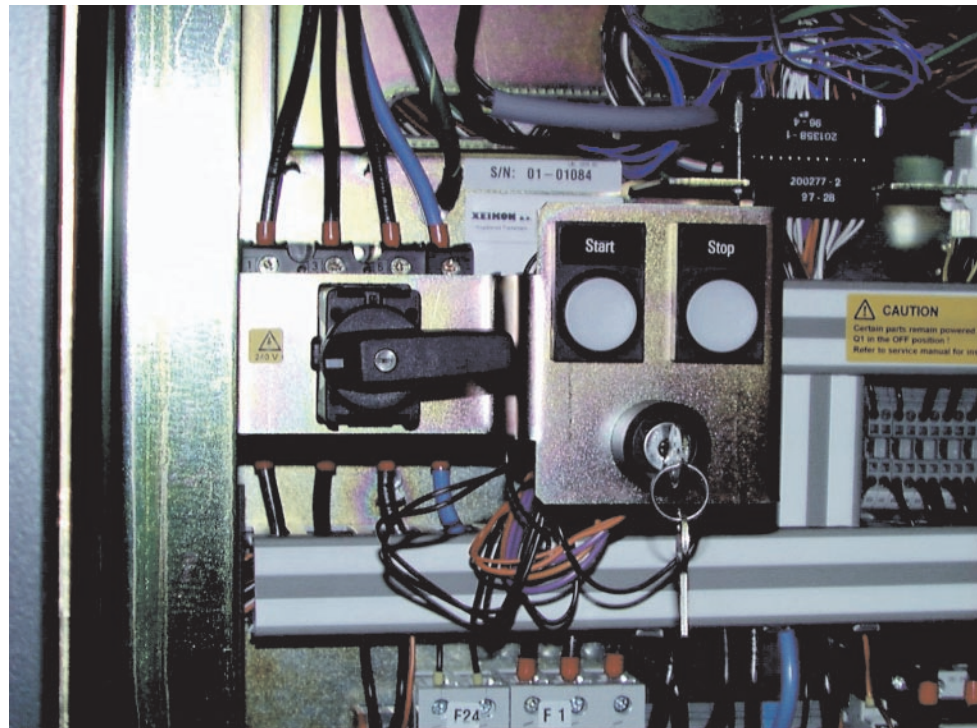

Figure 260. InfoPrint Color 100 Main Switch and Maintenance Key
3. Insert the maintenance key into the lock located below the Start and Stop pushbuttons, as shown in Figure 260.